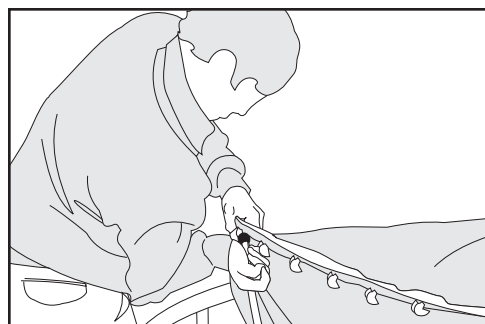

Figure 3: Preferred rod bending technique
1. To release each rod, push the clip lever towards the mat center, and hold. Then push the ball end of the rod towards the mat center to disengage it from the socket (Figure 3).
Tip: One method to release a rod is to grip a pair of rods with the right hand while releasing the clip of the upper rod with the left hand. Now by tightening the grip on the two rods the upper rod ball slips out of the socket, while the rod is still held firmly in the hand. From there, the rod can be freed in a safe and controlled manner (Figure 3).